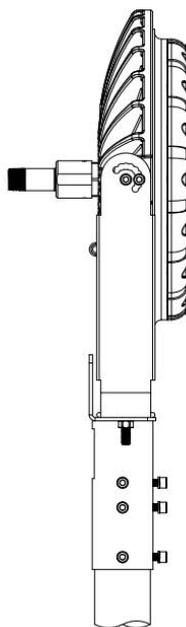

Figure 4
- ☞ This mounting bracket type is for mounting unto the straight electrical tube (Figure 4).